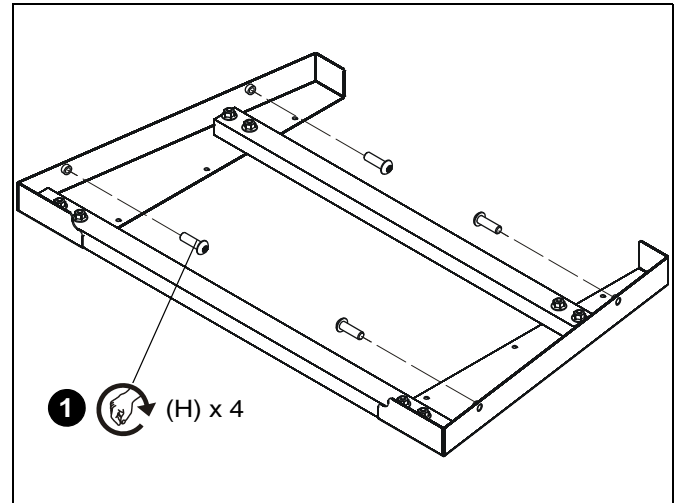

Figure 2
1. Partially install four 5/16-18 x 1" button head cap screws (H) into holes on wedge plates. DO NOT TIGHTEN! (See Figure 2)